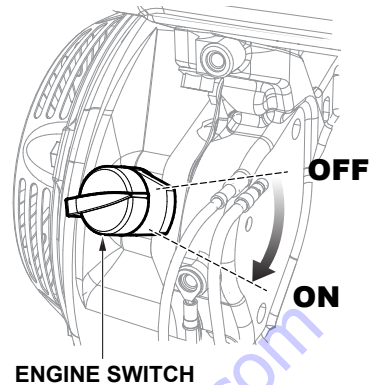

Figure 35. Engine ON/OFF Switch (ON)
2. Place the engine ON/OFF switch in the **ON** position (Figure 35).